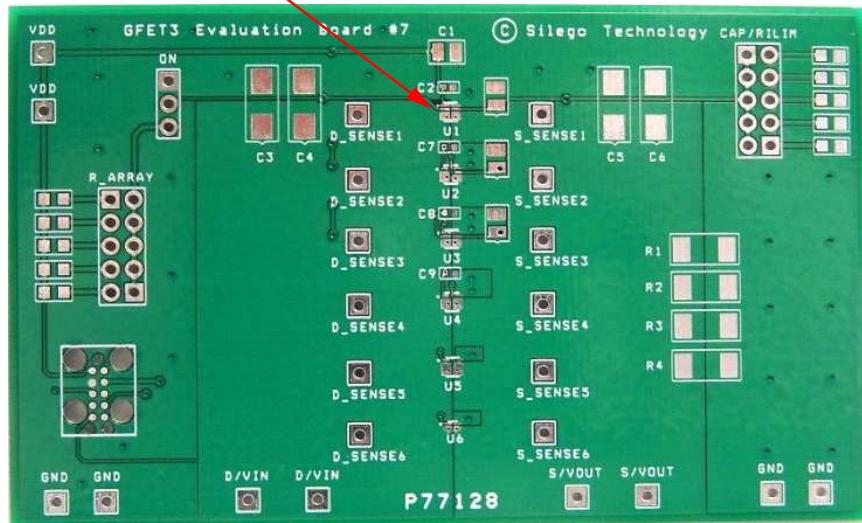

Figure 1. SLG59M1545V Evaluation Board.
2. Since the D and S pins dissipate most of the heat generated during high-load current operation, it is highly recommended to make power traces as short, direct, and wide as possible. A good practice is to make power traces with absolute minimum widths of 15 mils (0.381 mm) per Ampere. A representative layout, shown in Figure 1, illustrates proper techniques for heat to transfer as efficiently as possible out of the device;
A GreenFET Evaluation Board for SLG59M1545V is designed according to the statements above and is illustrated on Figure 1. Please note that evaluation board has D_Sense and S_Sense pads. They cannot carry high currents and dedicated only for RDS_{ON} evaluation.